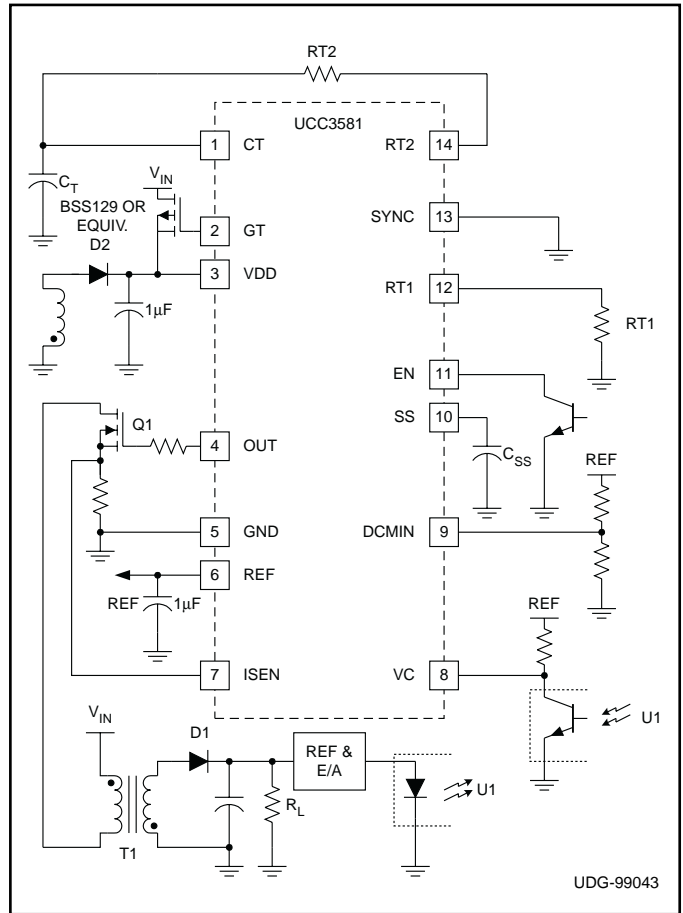

Figure 1. Application diagram.
See Application Diagram Fig. 1.
**RT2:** Resistor pin to program oscillator discharge time. The minimum value of RT2 is 10kΩ. See Application Diagram Fig. 1.
The UCC3581's oscillator allows the user the flexibility to program the frequency and the duty cycle by adjusting two resistors and a capacitor. Application Diagram Fig. 1 shows these components as RT1, RT2, and CT. RT1 programs the timing capacitor charging current which results in a linear ramp charging CT. Discharge of CT is accomplished though RT2 which results in a standard RC discharge waveform. The oscillator on-time (CT charging) is calculated by the formula